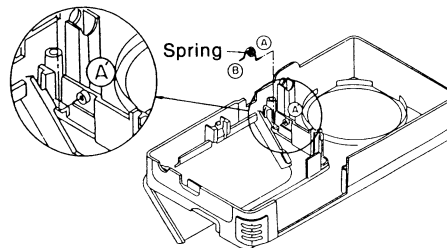

Fig. 4
2. With the lid open, insert spring end A in hole A' in the front cabinet as shown in Fig. 4.